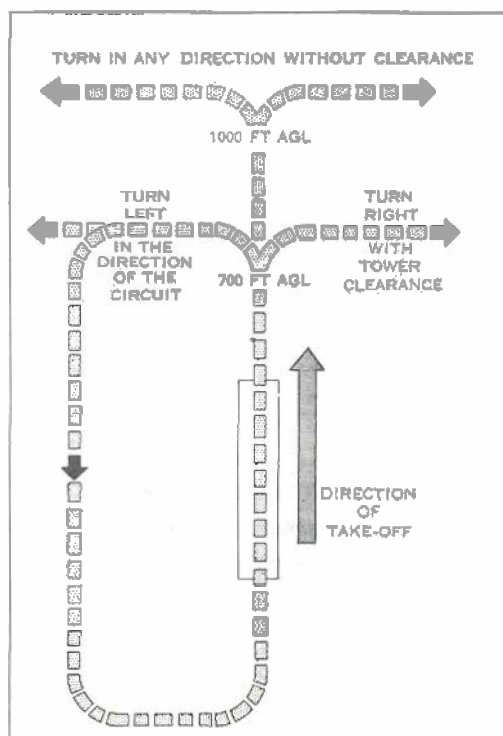

Figure 4: Leaving the Traffic Pattern
- (1) There are three methods of leaving the circuit.
- (2) Figure 4 opposite, has been prepared to illustrate the three methods of leaving the circuit. Whichever one you choose, you must maintain a careful look-out at all times, especially when you are close to circuit altitude. Always look around before making a turn.